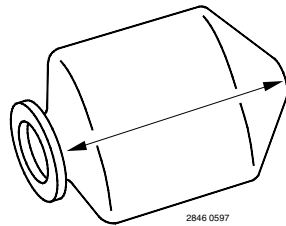

Figure 3 – Force all air out of water cell
- A. Place water cell on clean surface with opening to one end and flatten to force air out. Pull ends out flat (see Figure 3).